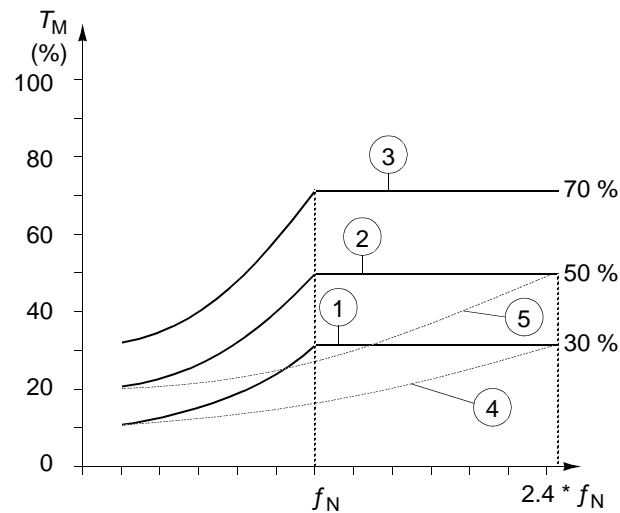

Figure 6-21 Underload curve types. T_M nominal torque of the motor, f_N nominal frequency of the motor.
- 30.15 UNDERLOAD CURVE** This parameter provides five selectable curves shown in Figure 6-21. If the load drops below the set curve for longer than the time set by Parameter 30.14 UNDERLOAD TIME, the underload protection is activated. Curves 1 ... 3 reach maximum at the motor rated frequency set by Parameter 99.07 MOTOR NOM FREQUENCY.